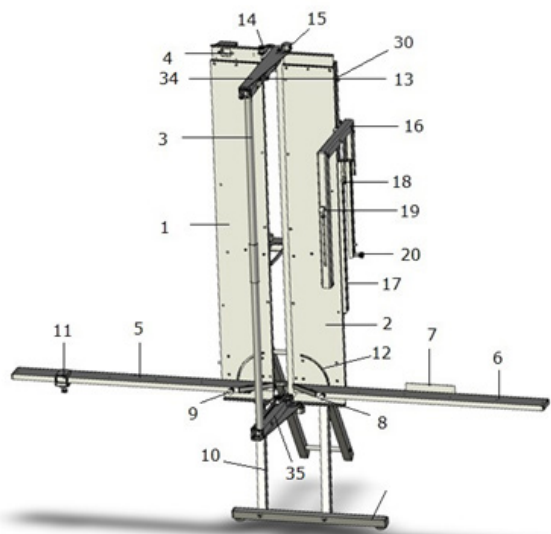

Fig. 1
- Do not lift the device by the cutting arm (3, Fig. 1)!